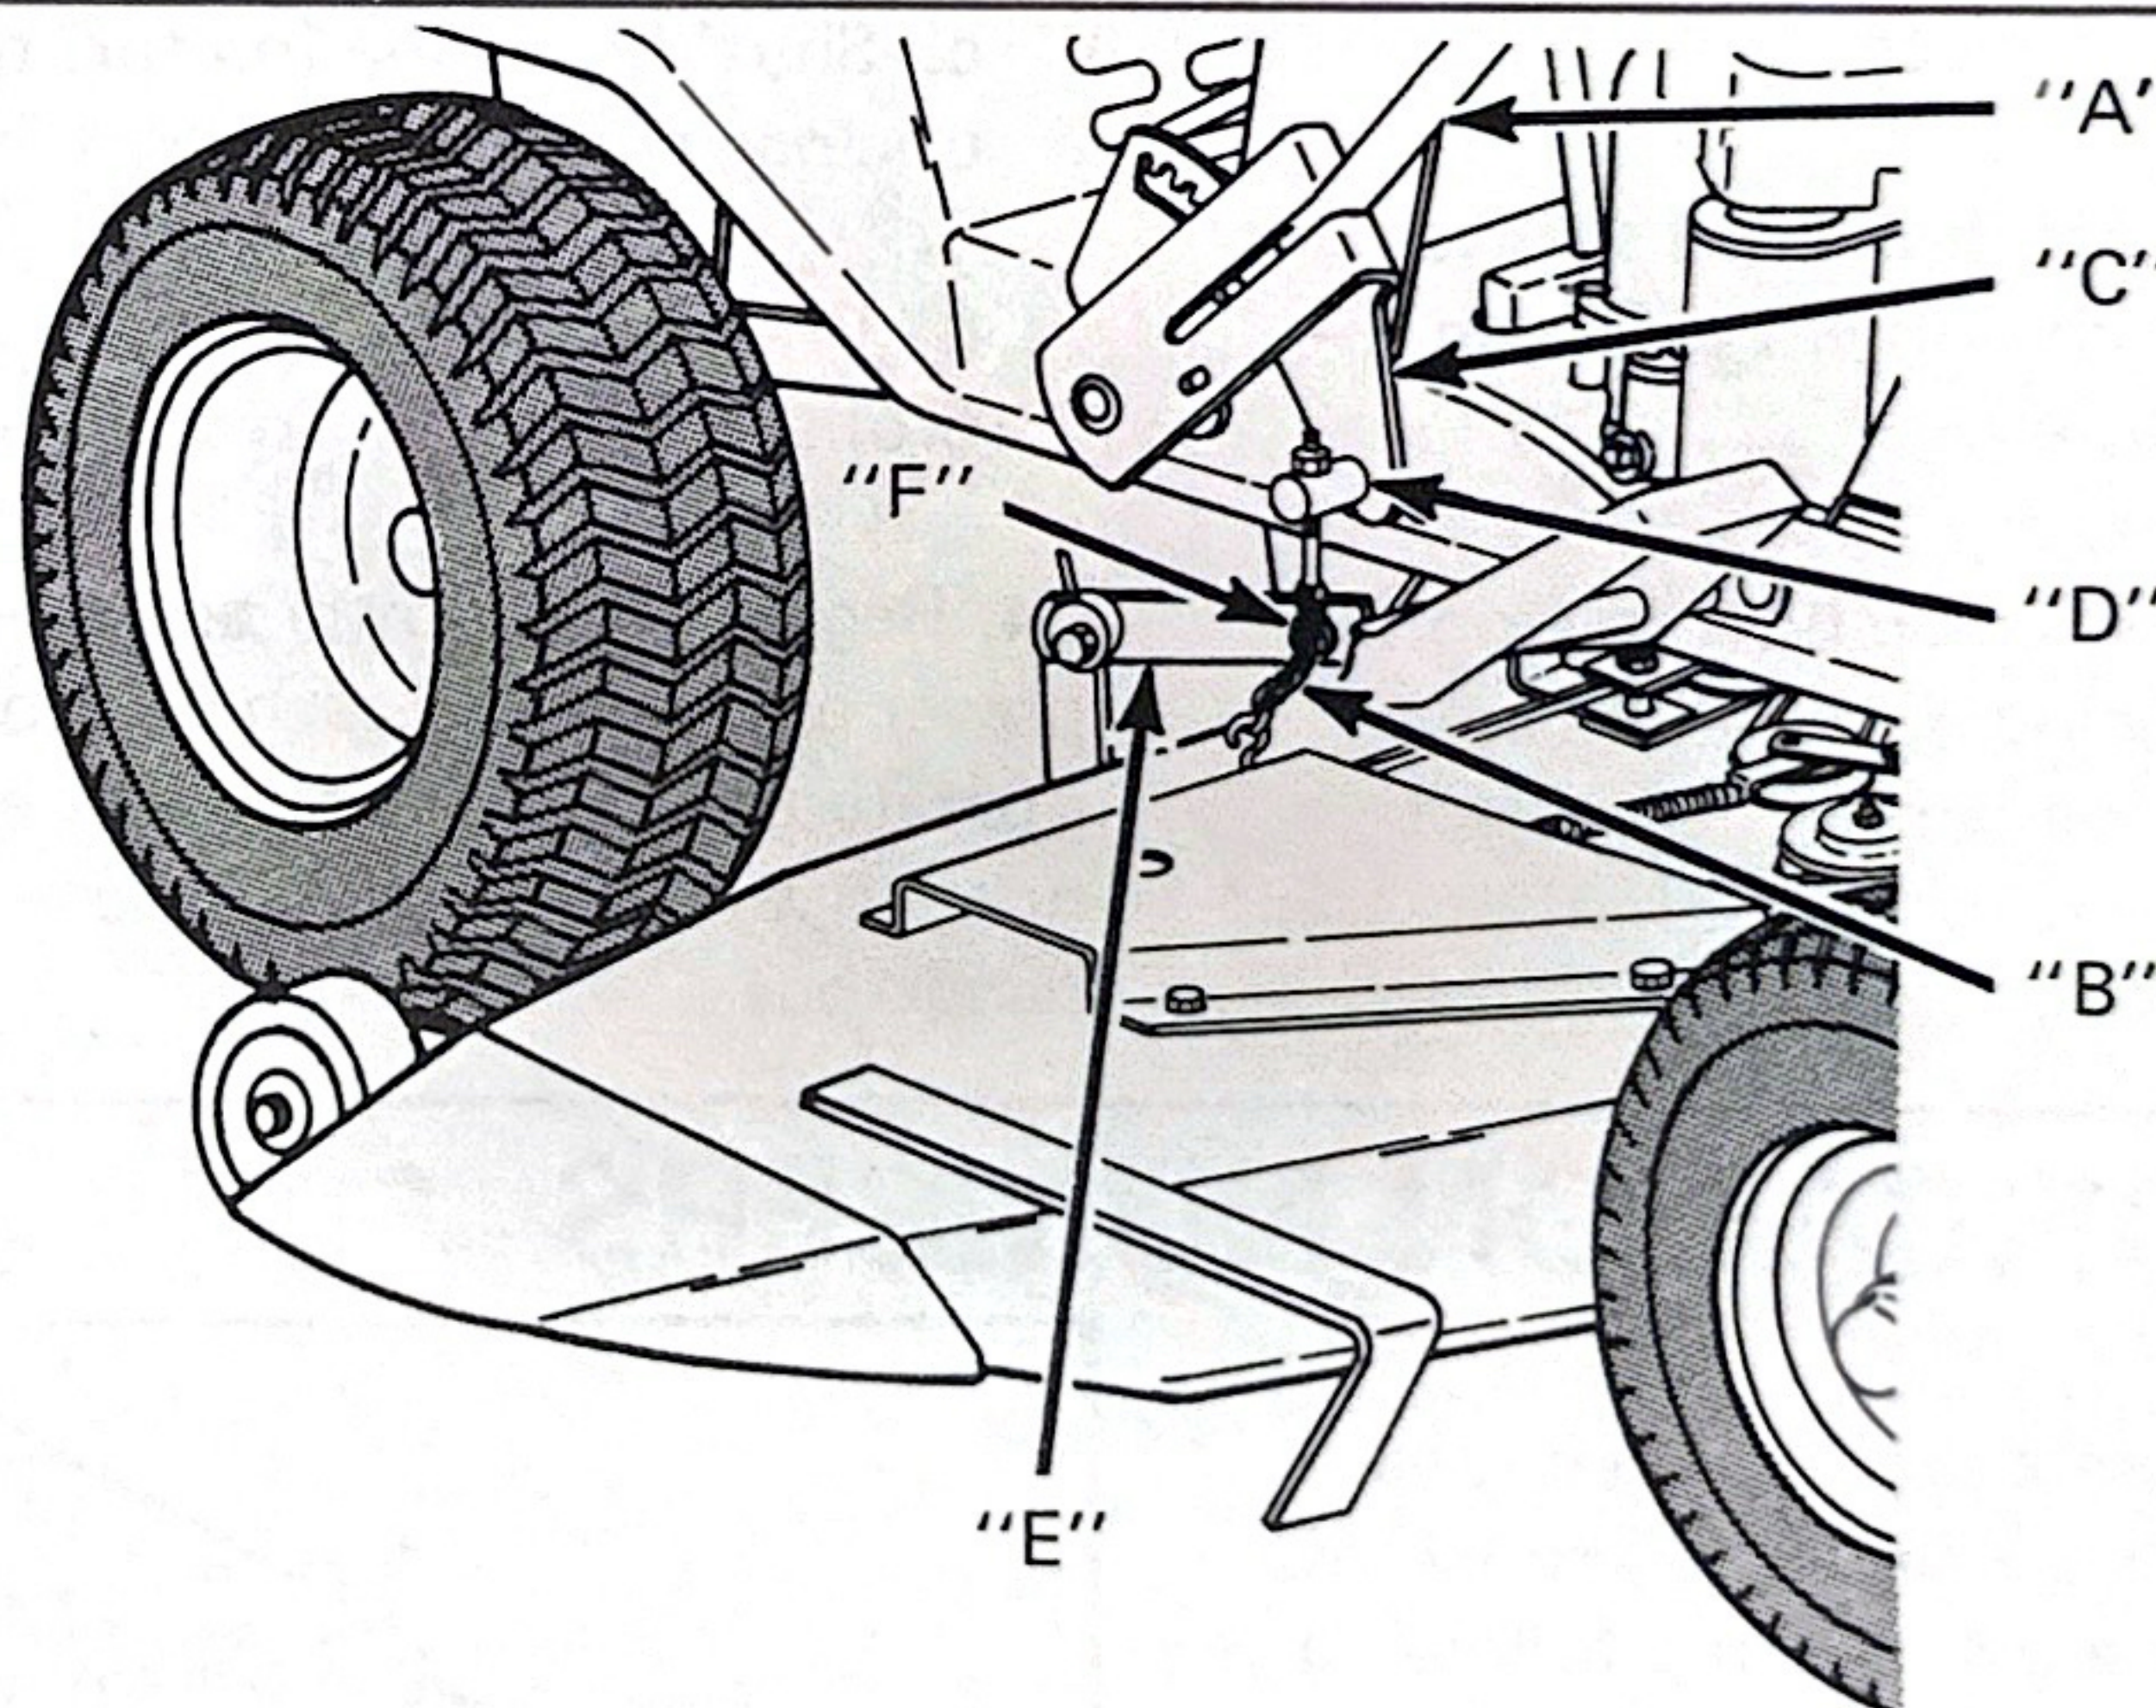

Fig. 3
3. Place tractor attachment lift lever, (A) Figure 3, in full forward position.
4. Attach mower support chains (B) (on both sides of mower) to lift arms (C). Insert small end of stud (D) into hole in lift arms and secure with spring clips.
5. Lift mower attachment up using attachment lift lever. Line up holes in links, (E) Figure 3, with holes in hitch assemblies. Insert clevis pins (F) (from the outside) and secure with spring clips.